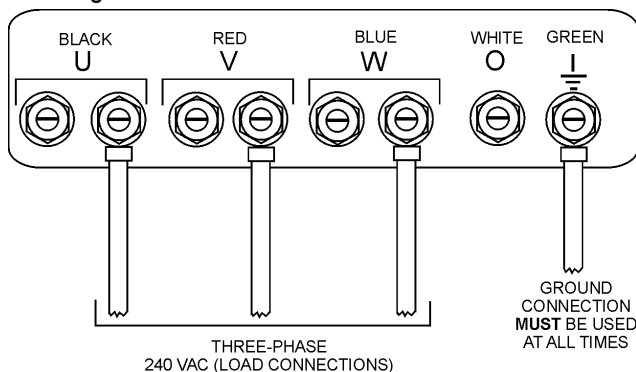

Figure 22. UVWO Terminal Lugs 30-240V Connections
2. Connect the load wires to the UVWO terminals as shown in Figure 22.